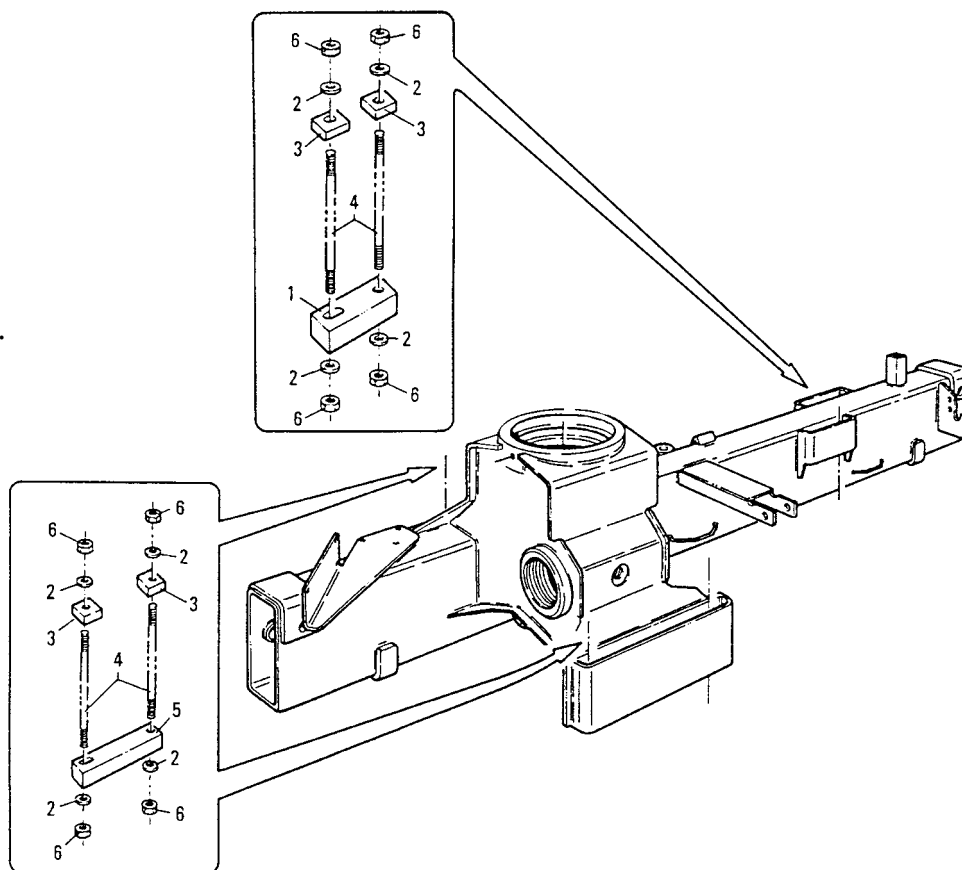

Fig.1-10
1.8.2 DATI TECNICI ANCORAGGIO DI NOSTRA FORNITURA PER GRU SERIE 4 (Fig. 1-10)
1.8.2 TECHNICAL DATA ABOUT ANCHORAGE SUPPLIED FOR CRANE SERIE 4 (Fig. 1-10)